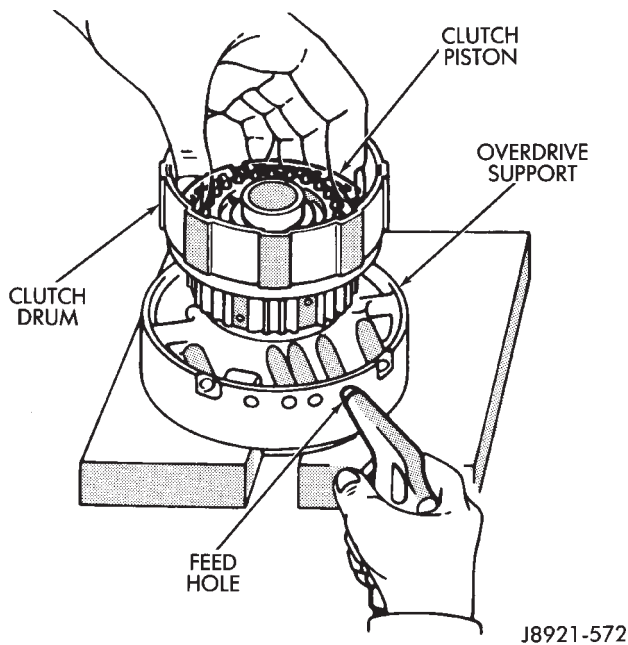
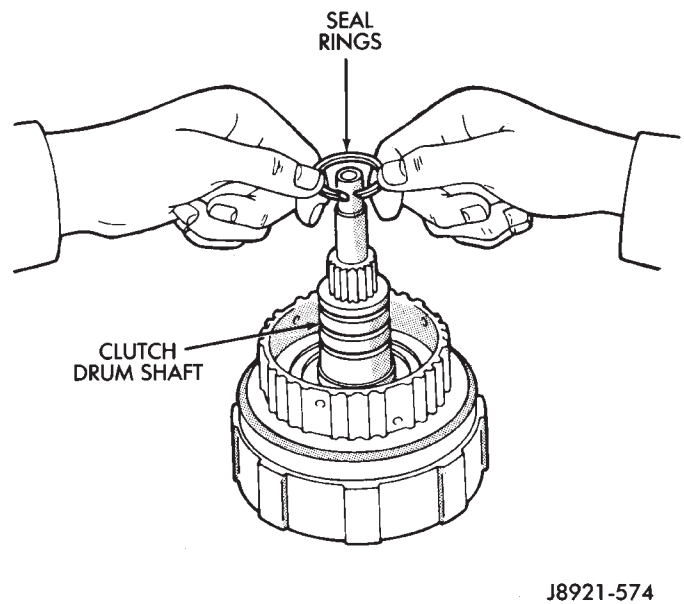

Fig. 6 Removing Forward Clutch Piston
Fig. 8 Removing Clutch Drum Seal Rings
(11) Remove spring compressor tool and piston return springs.
(12) Remount forward clutch drum on overdrive support (Fig. 6).
(13) Remove forward clutch piston. Apply compressed air through feed hole in support to remove piston (Fig. 6). Use only enough air pressure to ease piston out of drum.
(14) Remove and discard clutch piston O-rings.
(15) Remove clutch drum O-ring from rear hub of drum.
(16) Remove three seal rings from clutch drum shaft (Fig. 8).